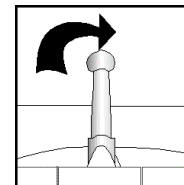

Figure 31
1. Rotate clear plastic toggle so that it is perpendicular to the white webbing slots on the packbag. **Refer to Figure 31.**